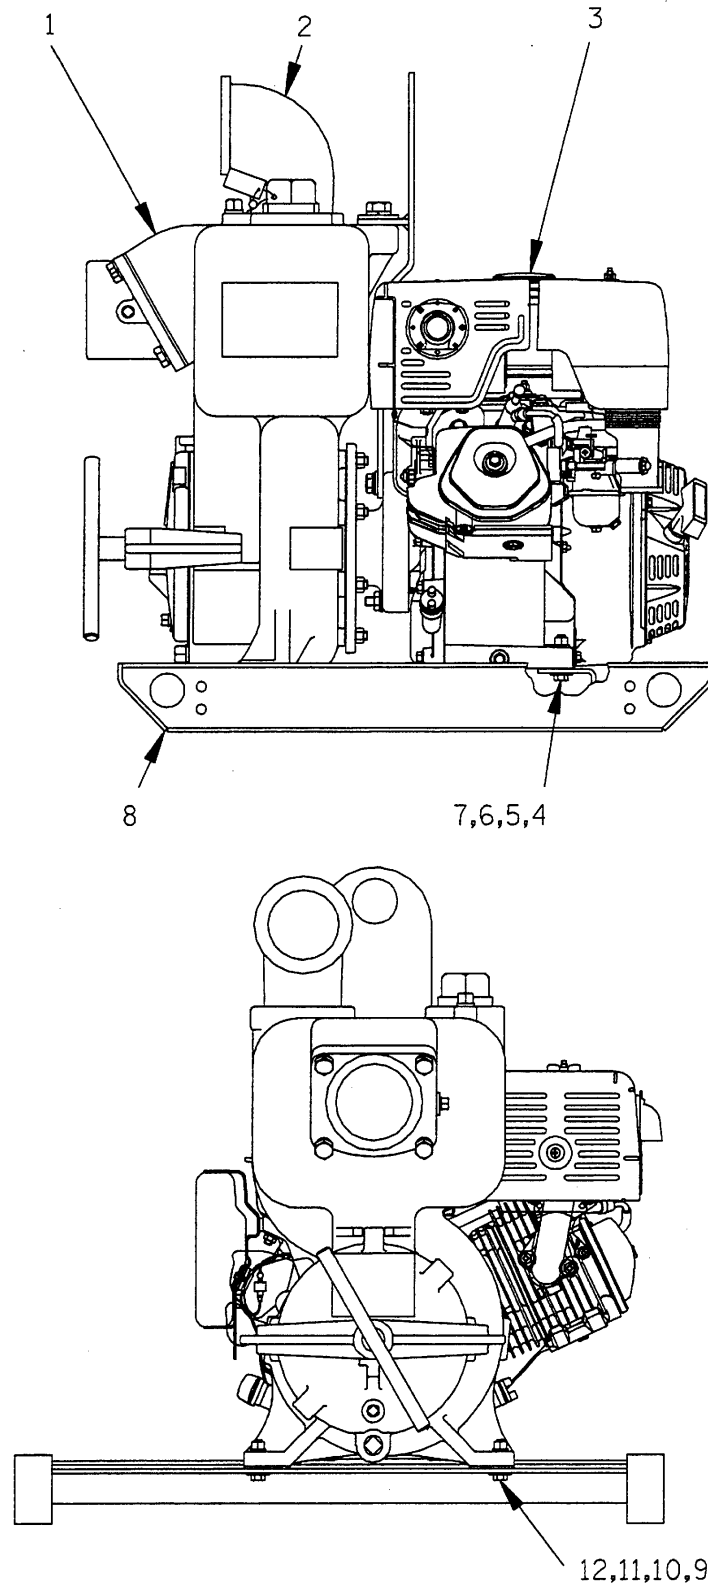

Figure 1. Pump Model 13A52-GX390
This pump requires little service due to its rugged, minimum-maintenance design. However, if it becomes necessary to inspect or replace the wearing parts, follow these instructions which are keyed to the sectional views (see Figures 1 and 2) and the accompanying parts list.
To service the impeller (2) or seal assembly (3), disconnect the discharge piping. See Figure 1 and remove the hardware (9, 10, 11 and 12) securing the pump casing to the base (8).